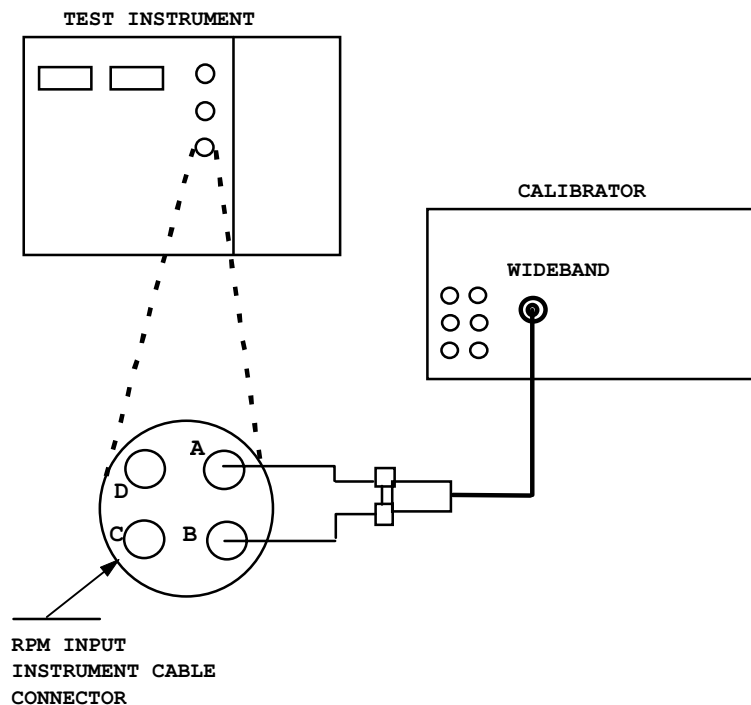

Figure 5. % RPM indicator.
- (1) Set **RPM** switch to **CAL 100% RPM** and adjust **RPM CAL ADJ** control for **100.0** indication on % **RPM** indicator.
- (2) Set **RPM** switch to **N1**.
- (3) Short pins **A** and **B** on **RPM INSTRUMENT CABLE** receptacle, using test probe hooks.
- (4) If % **RPM** indicator does not indicate **.0** or **.1**, perform **b** (1) through (3) below.
- (5) Set **RPM** switch to **N2**.
- (6) Remove shorting connection from pin **A**, and connect to pin **C** on **RPM INPUT INSTRUMENT CABLE** receptacle.
- (7) %**RPM** indicator will indicate **.0** or **.1**.
- (8) Remove short from pins **B** and **C** and connect equipment as shown in figure 5.